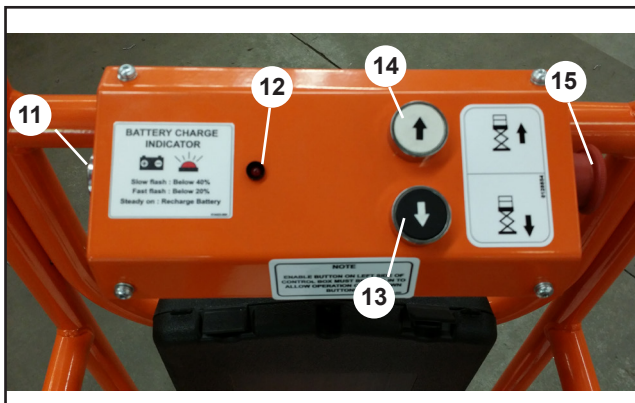

Figure 3 – Upper Controls and Indicators
The upper controls (refer to Figure 3) are located on the control panel at the front of the platform.
10. Test each machine function from the upper control station by engaging the interlock and operating the function controls (refer to Figure 3).